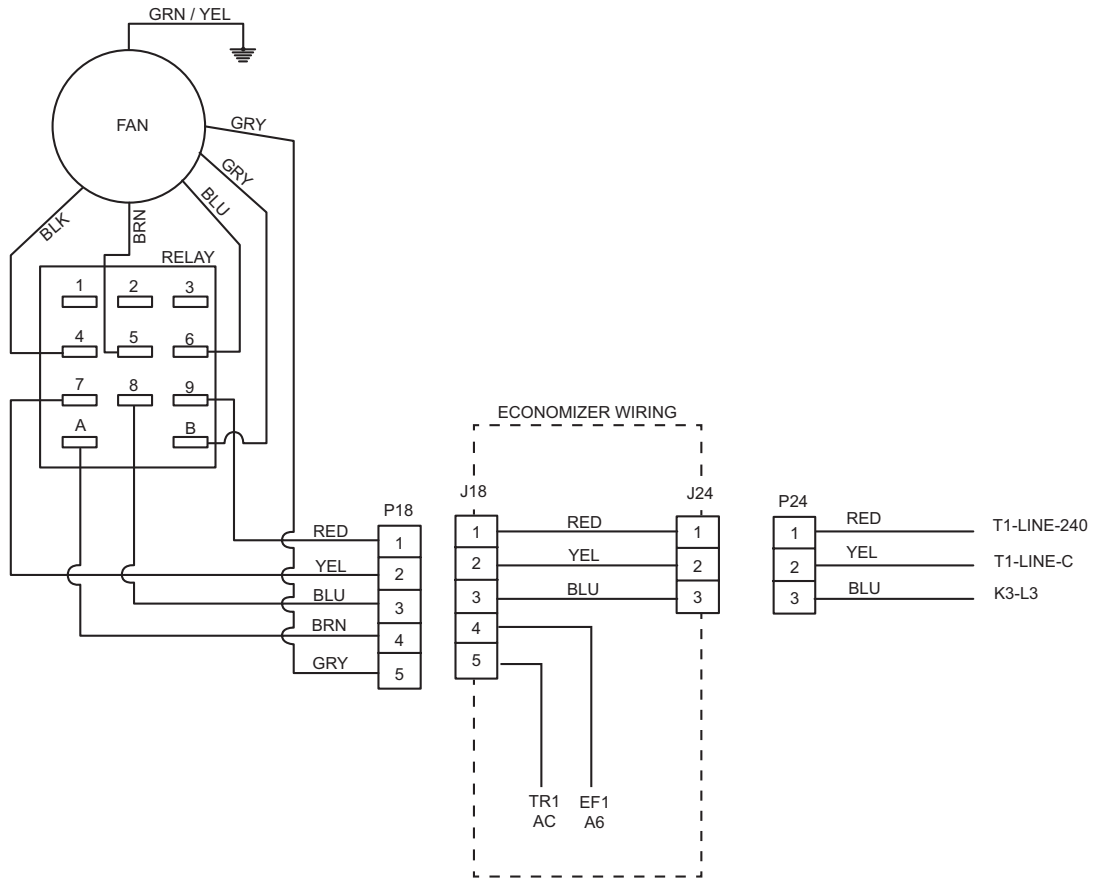

Figure 6 - Wiring Diagram for 460v 3PH
12. Connect high voltage harness to power connections. (See Fig. 6 and 7.) NOTE: On 575 volt units a separate transformer (Cat no. 59E02) must be purchased and installed.